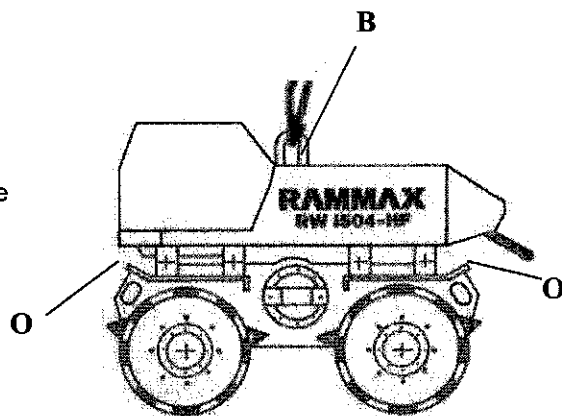

Fig. 13
- To load the roller using hoisting gear, there is a hinging transport eye bolt "B" positioned on the roof (Fig. 13).